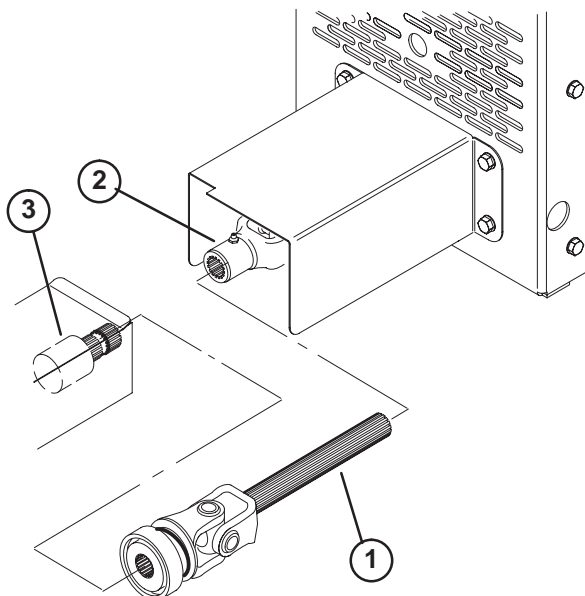

Figure 10
1. Insert drive shaft spline (supplied in installation kit) into blower coupler (Fig. 10).